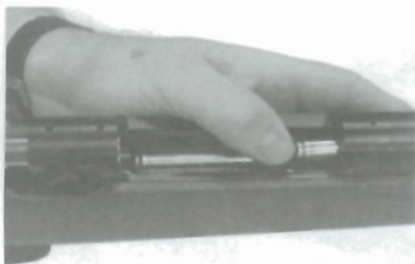

FIGURE 4
1. With the muzzle pointed in a safe direction, insert a cartridge into the chamber as shown in FIGURE 4.